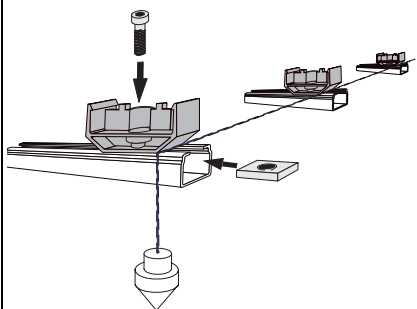

Fig. 4
- WCS2-MH1: Rail holder with fixing screw (Fig. 4)